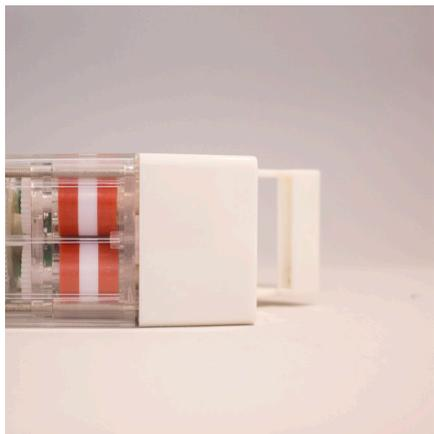

Figure 1
- a) Remove the cover on the bottom of the motor (fig 1).